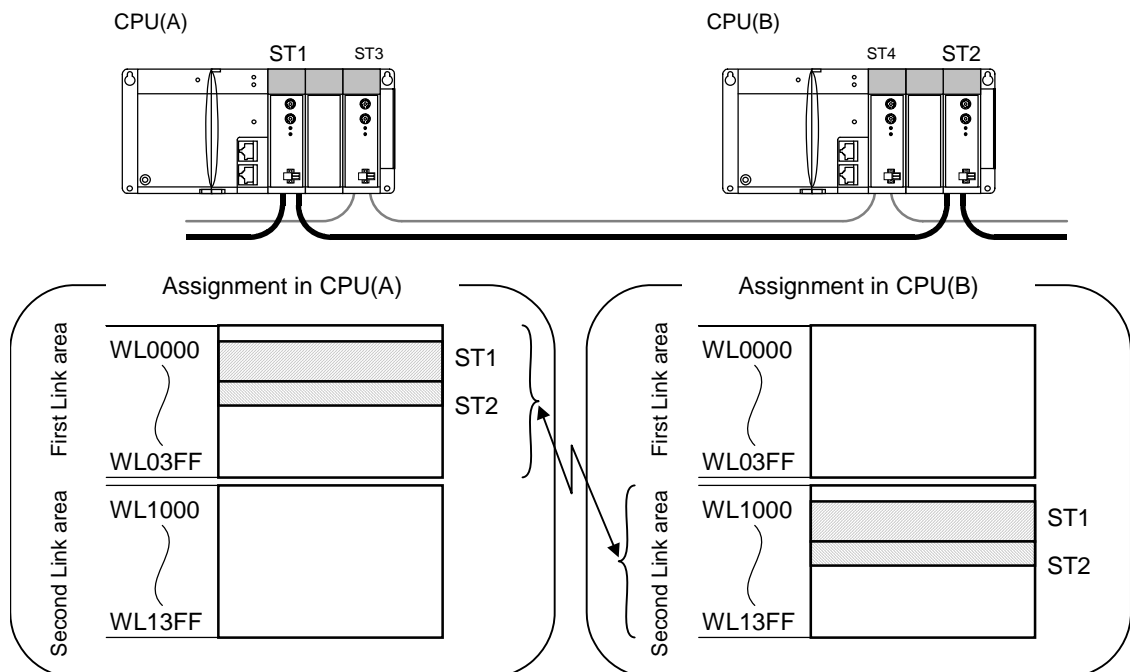

Figure 4.5 Example of link data assignment
An example of a CPU link system configuration is shown in figure 4.5. In the system configuration shown in figure 4.5, the optical type CPU link module (ST1) with CPU (A) is located in the first CPU link position, and link data assignment with CPU (A) is carried out within the first CPU link area. In addition to this, link data assignment for the CPU (B) optical type CPU link module (ST2) is also carried out in the first link area when viewed from CPU (A).